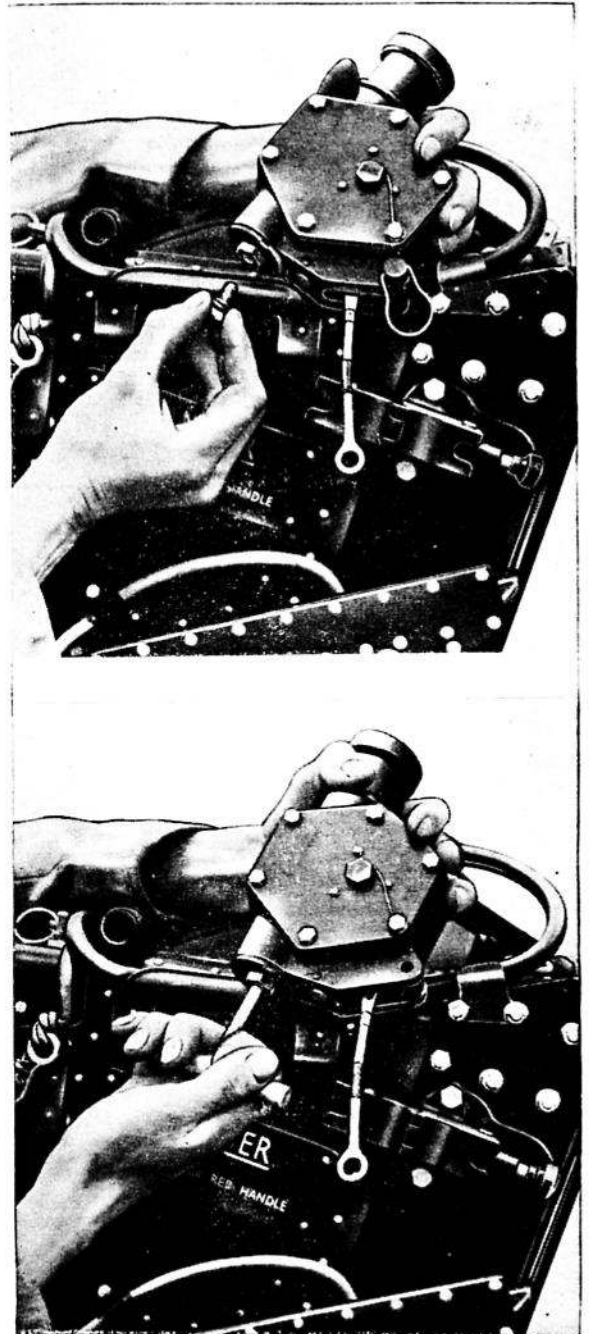

Fig. 15. Re-setting drogue gun time-delay mechanism
- (2) Assemble the safety harness release cable conduit and starboard thigh strap.
- (3) Turn the operating plunger until the word "Top" appears at the bottom, insert the sear from the top, depress the plunger until it engages and rotate a half-turn.
- (4) Close the scissor shackle over the drogue shackle, and slide the restraining plunger inwards until it rests against the scissor shackle.
- (5) Place the rack plunger tool over the primary plunger (fig. 15) and press down until it engages.
- (6) Place the harness release plunger tool over the plunger, ensuring that the cut-away portion of the tool is facing forward, and press down until it engages. Whilst doing so, place the other hand on the safety harness quick-release lever and assist it round to the locked position.